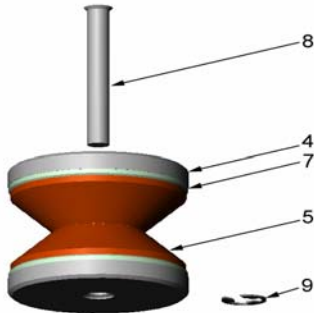

Figure 3
1.7 Position explosive assemblies together with the liners facing inward along a single axis, and insert the Booster Cartridge (item #8) through the hole in the backup until the flared end seats in the hole; see Figure 3.